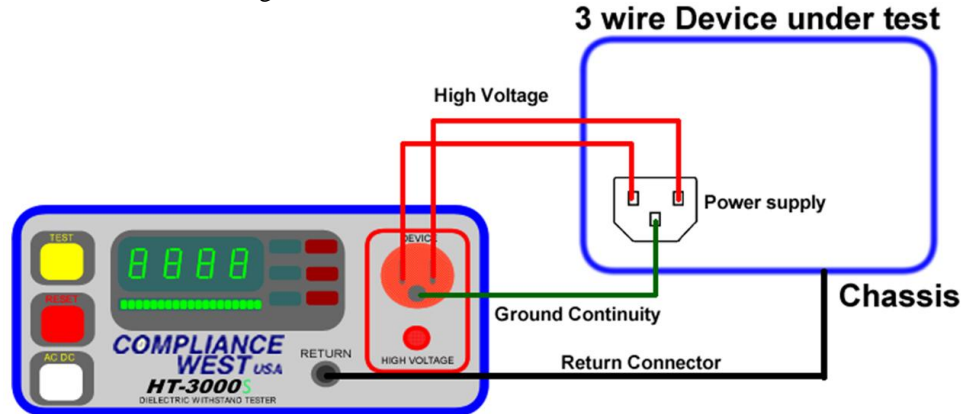

Figure 6. Testing a Three Wire Power Cord Device.
4. Plug the power supply cord of the device being tested into the **Device** receptacle on the front panel of the HT-S unit. See Figure 6 for detailed connections.